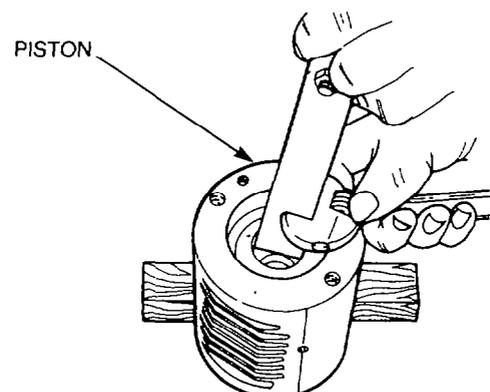

Figure 273 — Lower Adjusting Nut — Removal
- o. Using a piece of flat stock material, remove the top adjusting nut from the piston (see Fig. 273).